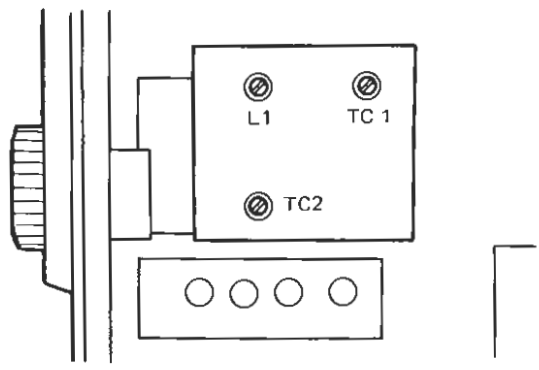

Fig. 5
- (3) Adjusting procedure (Refer to Fig. 5.)